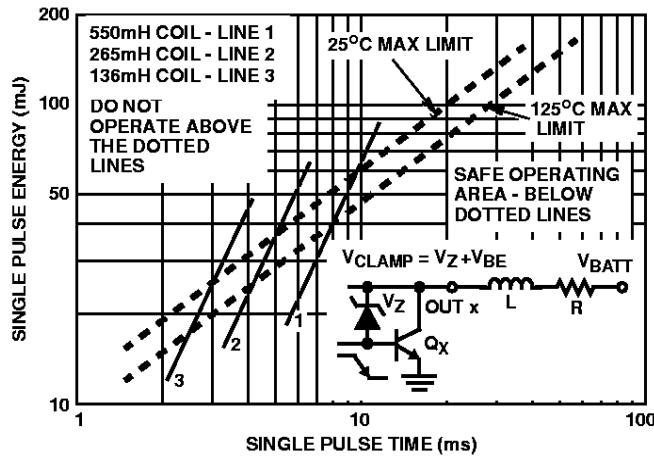

FIGURE 5. CA3292A SINGLE PULSE INDUCTIVE FLYBACK CLAMP ENERGY SOA RATING CHART FOR EACH OUTPUT DRIVER
- The single pulse clamp energy rating for the CA3292A is defined over a range of operating conditions. The Clamp Energy is a function of the Load Inductance, Load Resistance, Clamp Voltage, Supply Voltage, the Saturated ON Resistance (V_{SAT}) and the Steady State Load Current at the instant of Turn-OFF. Refer to Figure 5 for the Safe Operating Area when driving inductive loads. Rating limits for Energy vs Single Pulse Width Time are plotted for different coil values. Refer to Application Note - AN9416 for pulse energy calculation methods.
Refer to Application Note AN9416 for additional thermal information. Further information is provided on pulse energy calculation methods for inductive load applications with detail explaining the Safe Operating Area shown in Figure 5. The SOA area for single energy transients is below the dotted lines for the given ambient temperature conditions. The energy locus plots of the three inductive coils were made for arbitrarily chosen values of inductance and are shown here for reference information. The RL time constant, ambient temperature, clamp voltage and the stored energy in the coil determine the SOA limits.